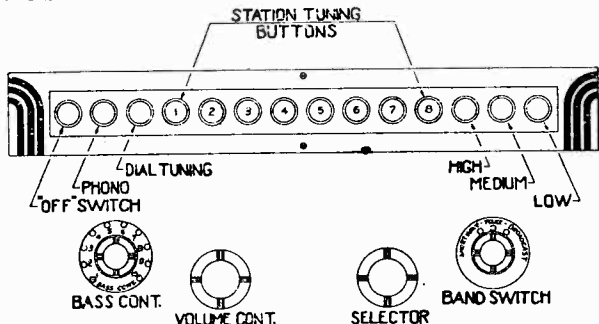
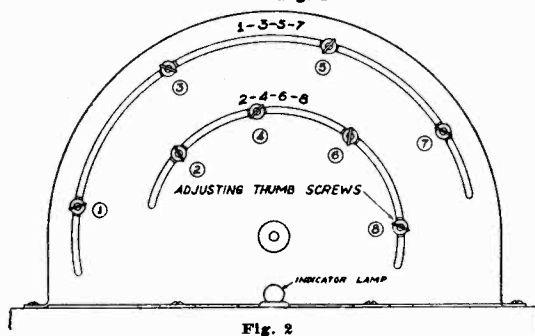

Fig. 1
Fig. 2
The first step to take in adjusting the electric push button device incorporated into this receiver is to choose eight (8) of the most powerful local stations, stations which are free from excess fading. Turn on the receiver (broadcast band) and press in the dial tuning button; tune in the station of the lowest frequency, using the station selector knob. Now hold the dial tuning button in and press in button number one (1). (See Figure 1). Both buttons are now locked into place; a small pilot lamp located at the rear of the chassis will light up unless the thumb screw at the rear accidentally happens to be correctly set. Loosen thumb screw number one (See Figure 2 for order of thumb screws) enough to allow it to slide freely back and forth until the light goes out. Now tighten the thumb screw; the adjustment for the first station is now complete. Out of the station call letter sheet supplied remove the proper station call disc and insert into the recess of button number one. Push one of the clear celluloid discs into the recess also, over the station call disc. Now release button number one by pressing the dial tuning button in as far as it will go.
With the white button still in, tune in the station of the next highest frequency and holding the white button, press in button number two. Both buttons are now locked into place. Loosen thumb screw number two (see Figure 2) and slide back and forth until a point is reached at which the pilot lamp in the rear goes out; tighten the thumb screw. Insert the proper station call disc and celluloid disc into the window of button number two.
**NOTE:** In the recesses of the white push buttons insert the words found in the call letter sheet as shown in Figure 1.